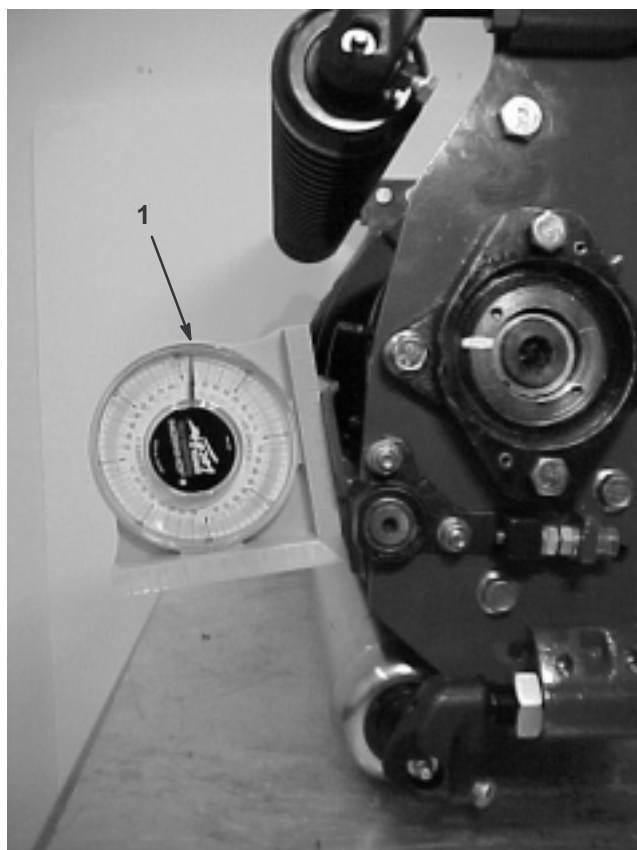

Figure 9
2. Place an angle indicator, Toro Part No. 99-3503, on the bedknife and record the bedknife angle (Fig. 9).